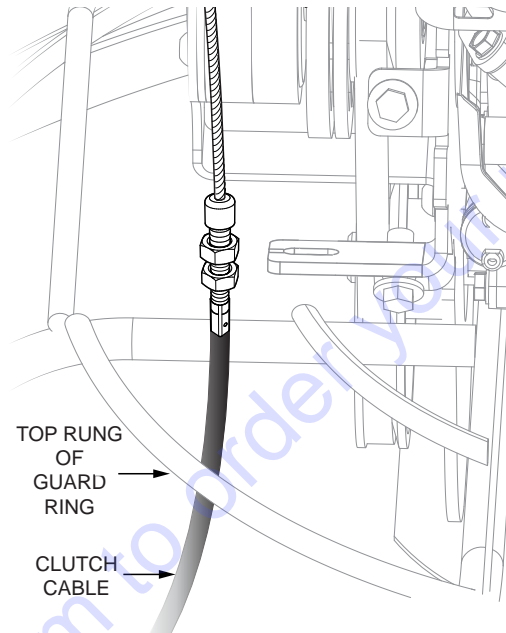

Figure 15. Clutch Cable Routing
5. Route the clutch cable (Figure 15) underneath the top most rung of the guard ring.